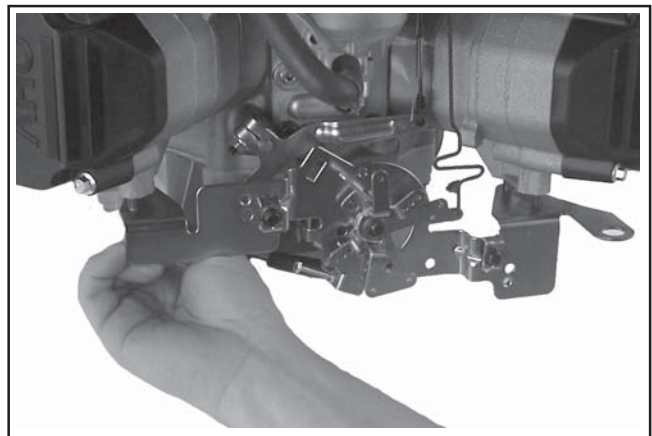

Figure 11-98. Attaching Main Bracket with Four Screws.
3. Attach the main control bracket to the cylinder heads using the four hex. flange screws. Torque the screws to **10.7 N·m (95 in. lb.)** if the heads are new, or to **7.3 N·m (65 in. lb.)** if the holes were used previously. See Figure 11-98.